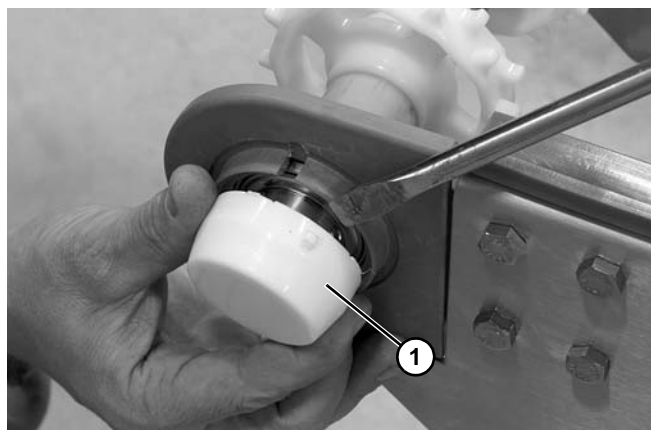

Figure 47
4. Remove bearing cap (Figure 47, item 1).